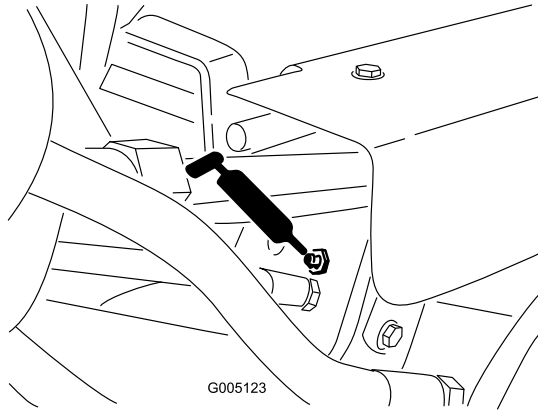

Figure 44
- Lift cylinders (3) (Figure 44)